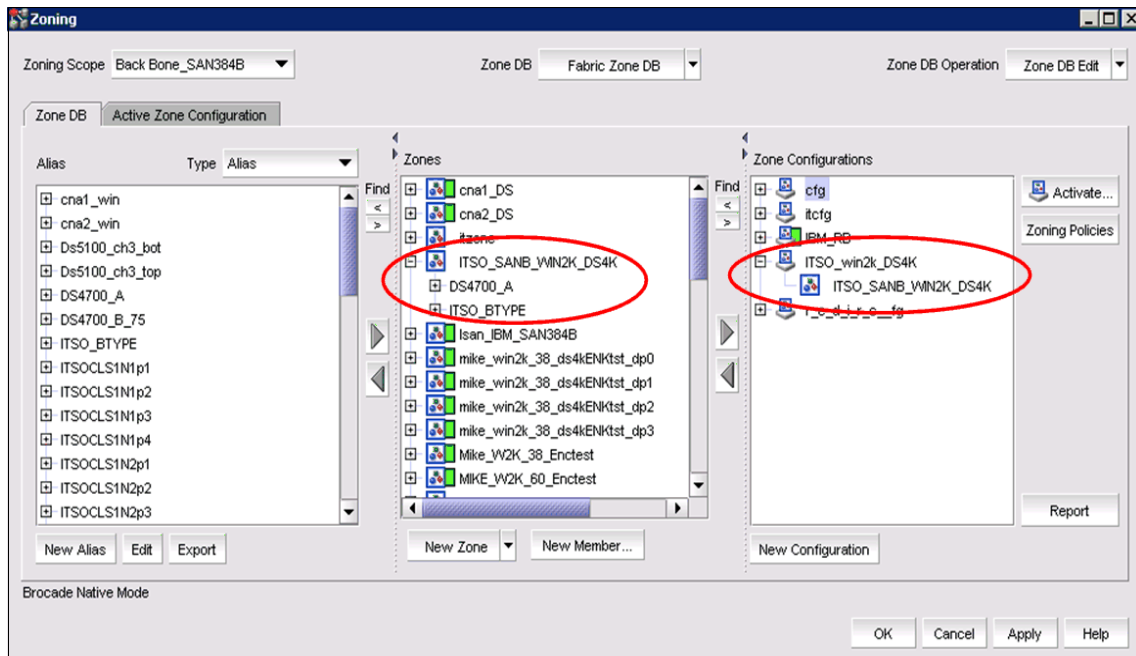

Figure 12-19 Move zone to the new config
3. Highlight the Zone or Zones that you want to move to the ITSO_Backup_cfg and move the Zone or Zones by clicking the right arrow. See Figure 12-19.